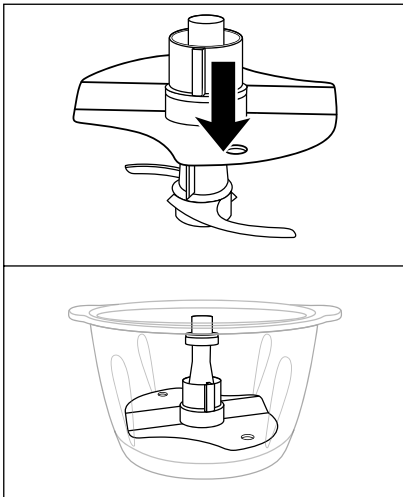

Fig. 1
- To whip 200–400 ml of cream, place the emulsifying disc **12** onto the blade holder **7** so that the emulsifying disc **12** is in contact with both parts of the blade **8** and clicks into place (fig. 1):